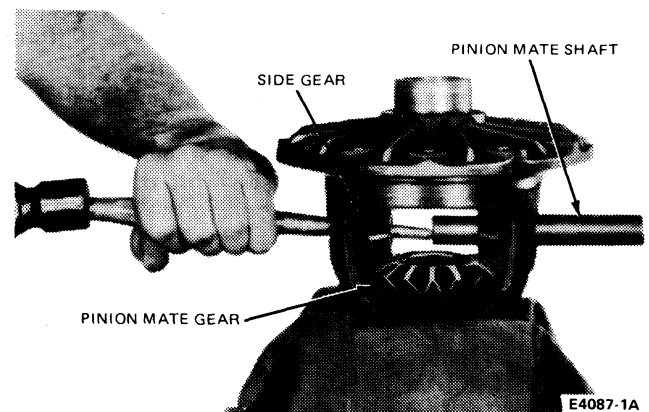

FIG. 18 Removing Pinion Mate Shaft
10. Remove pinion mate shaft with drift as shown in Fig. 18.